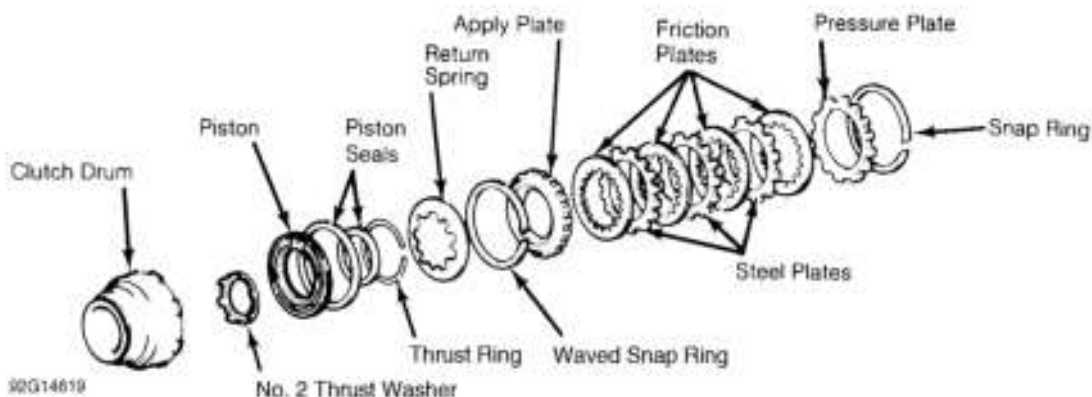

Fig. 36: Exploded View of Reverse Clutch Assembly
1. Remove No. 2 needle bearing. Using a screwdriver, pry clutch pack retaining snap ring from clutch drum. Lift out clutch pack. See **Fig. 36**.